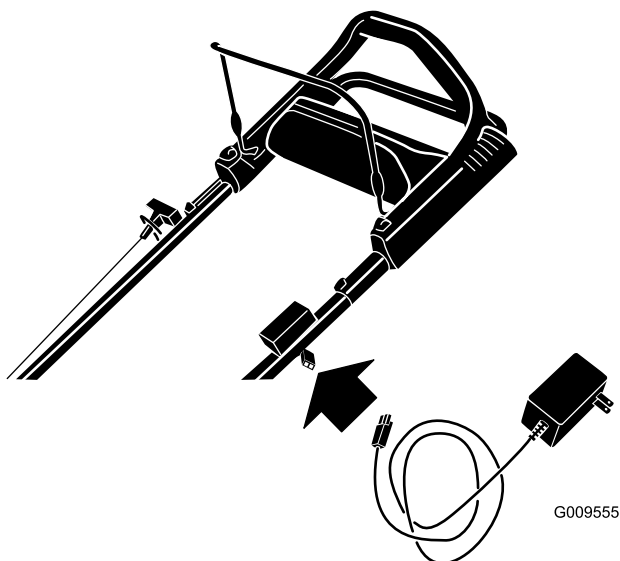

Figure 24
1. Connect the charger to the wire harness located below the ignition key (Figure 24).